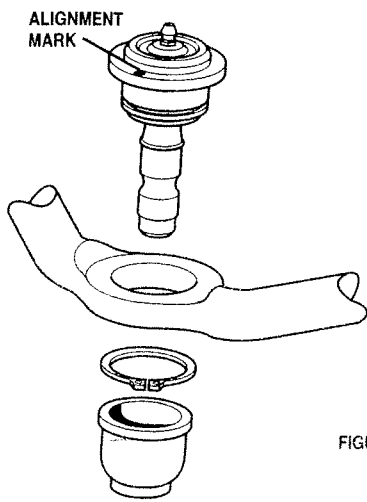

FIGURE 2
8. After verifying that the upper control arm and spindle are usable, proceed with the installation as follows: Position new ball joint to be pressed in so that **ALIGNMENT MARK ON HOUSING FACES OUTBOARD TOWARD WHEEL, AS SHOWN (SEE FIGURE 2)**. Press the ball joint squarely into the arm until shoulder seats firmly against the control arm.